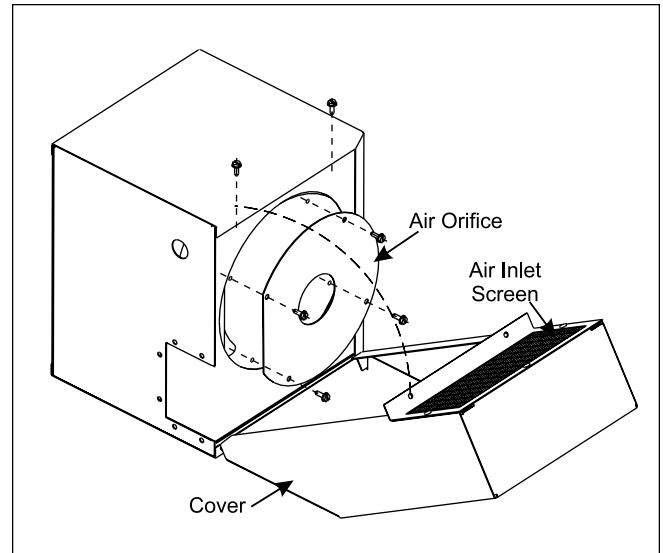

Figure 20. Blower-Housing.
2. Remove the screws holding the blower housing cover to expose the blower (see Figure 20).